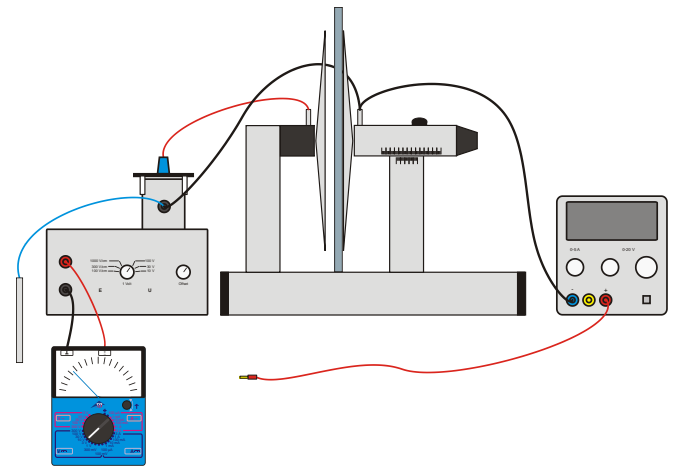

Fig. 2: Experiment set-up.
- Set up the experiment as shown in Fig. 2.